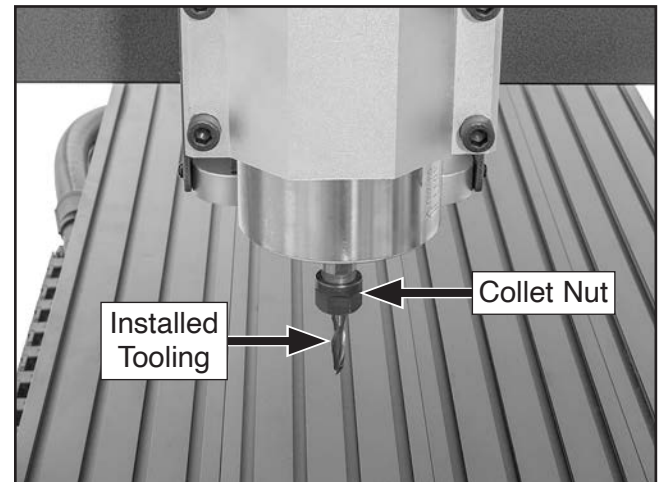

Figure 42. Tooling installed in spindle motor.
4. Insert collet in spindle and tighten collet nut to secure tooling (see **Figure 42**).